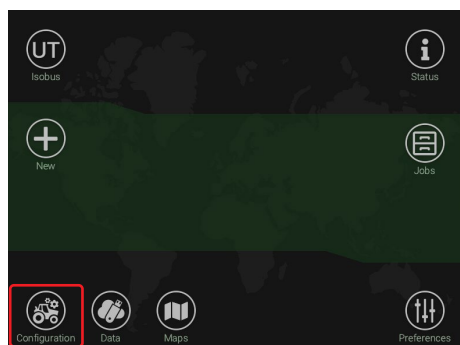
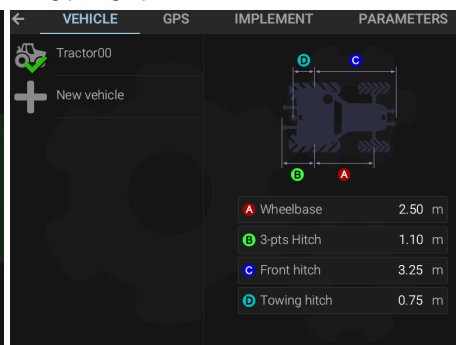

Fig. 34
Fig. 35
- Press **Configuration** (Fig. 34): the monitor opens directly the configuration setting menu (Fig. 35).